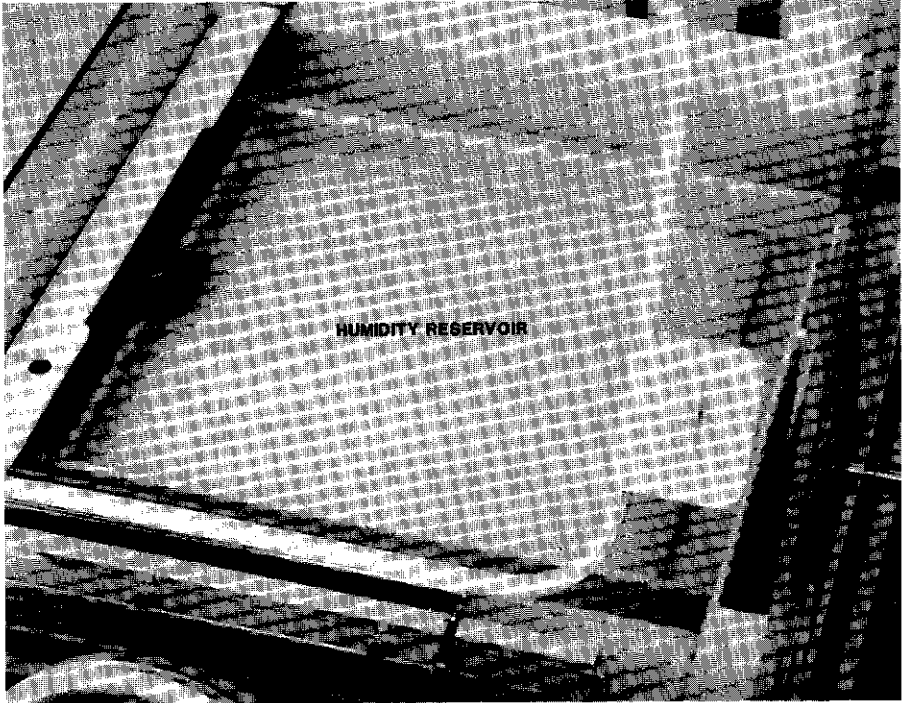

FIGURE 4.9 HUMIDITY RESERVOIR LOCATION
3. Soak the sponge (Figure 4.9) with 473 ml (16 oz.) of sterile distilled water. One soaking will provide humidity for a minimum of 12 hours.